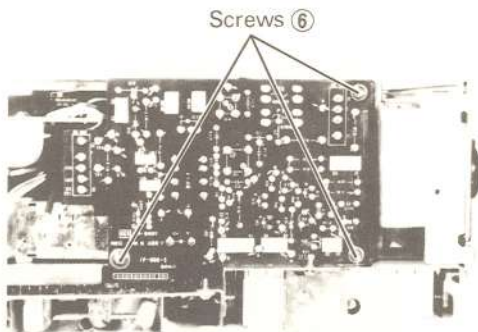

Fig. 3-13
1. Remove the three screws ⑥ on the printed circuit board as shown in Fig. 3-13.